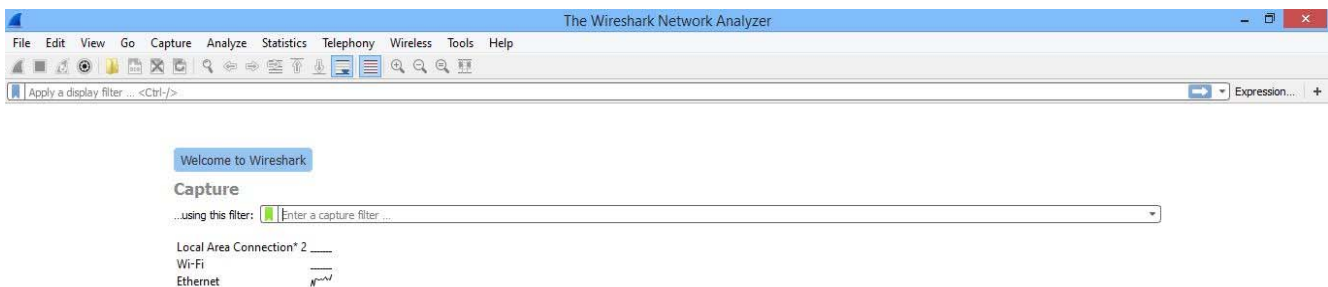

Figure 6: Wireshark Capture Options
8. Open WireShark and select (double click) **Ethernet** as the Capture Source Interface to begin monitoring (Figure 6)